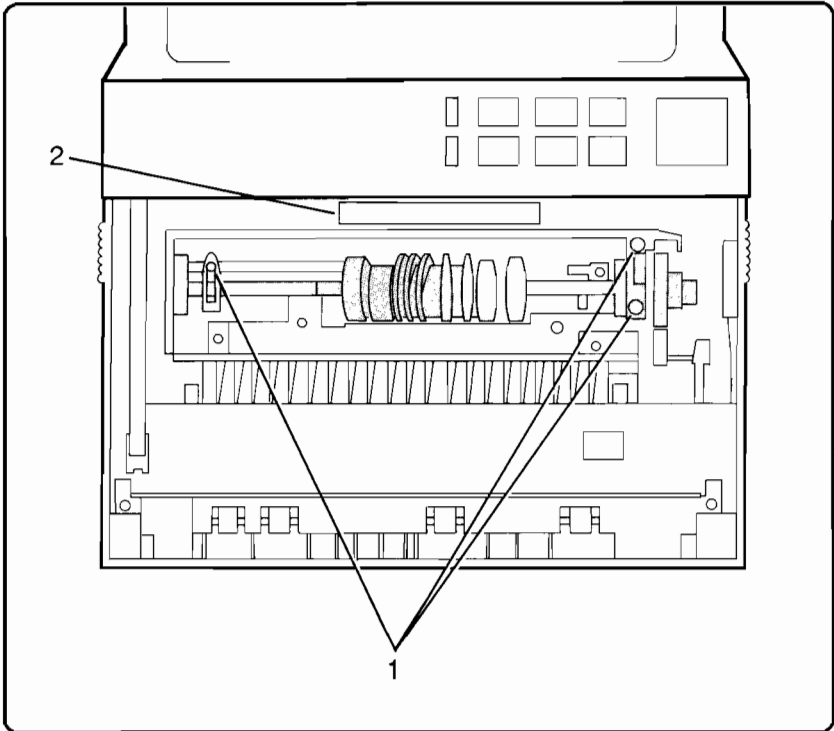

Figure 6-71. MP Pick-Up Roller Assembly Removal
3. Remove the screws (3) securing the MP Pick-Up Roller Assembly and remove the assembly (see Figure 6-71, callout 1).
Check the Separation Pad (Figure 6-71, callout 2). Replace it if the pad is worn, glazed, or if replacing an old pick-up roller.
3. Remove the MP Pick-Up Roller Assembly (see Figure 6-71).
4. Remove the MP Pick-Up Roller Assembly (see Figure 6-71).